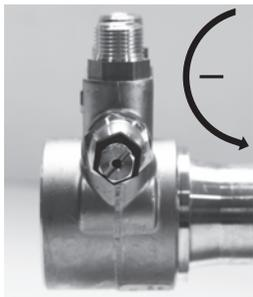

Fig.8
6.1 Regulating the pump (fig.8): The ideal pressure for preparing an espresso is 9 bar. To regulate pump pressure, start dispensing controlling the gauge (5) on the left of the machine and use the button placed on the side of the pump.